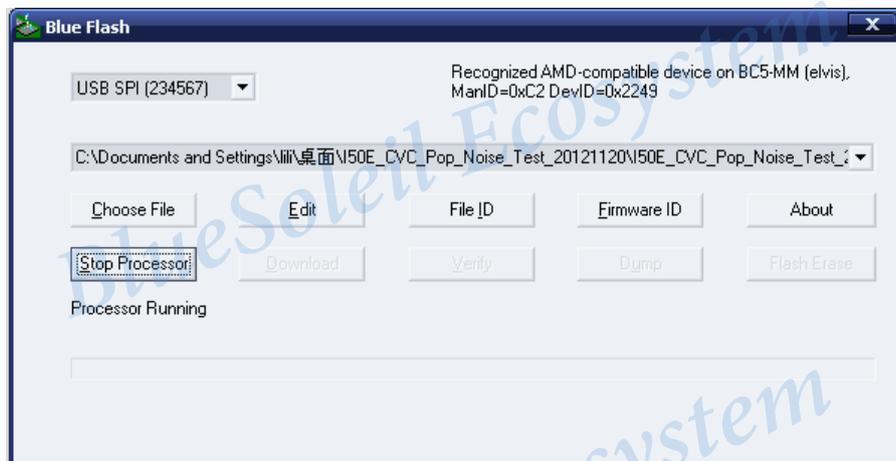

Figure 13 Start processor
- Click **Start Processor**. See Figure 13 below.